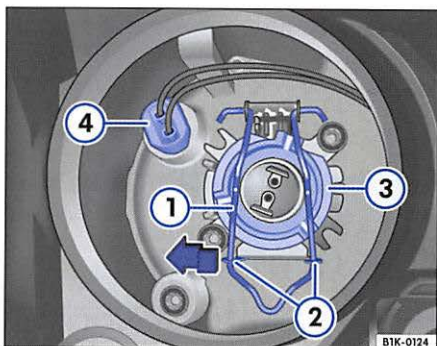

Fig. 37 In the headlight: high beam bulb 3 and position lamp bulb 4
- Remove the connector (3).
- Move the wire retainer $\Rightarrow$ page 82, fig. 37 (1) toward the front of the vehicle and then push it in the direction of the arrow out of the retaining lugs (2).
- Place the bulb holder back in the headlight. Make sure the retaining lugs (2) are at the bottom.
- Fold the wire hook down and engage it in the opposite direction shown by the arrow in the retaining lugs (2). Gently pull on the wire hook to check it has engaged securely.
- Connect the connector (3) to the bulb holder.
- Remove the bulb holder $\Rightarrow$ page 82, fig. 37 (4) from the headlight.